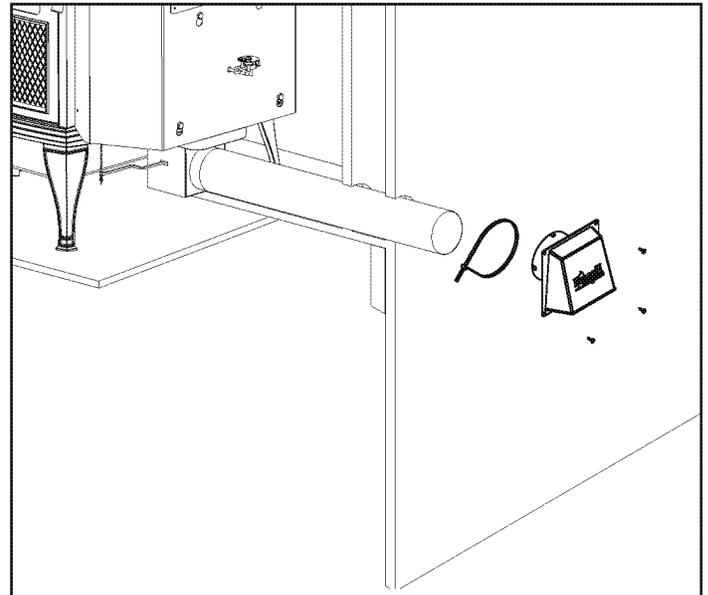

Figure 5.13 - Rear Installation
2. Using a #2 Phillips screw driver attach the flex adapter to the appliance using 4 screws. Figure 5.13 & 5.14.